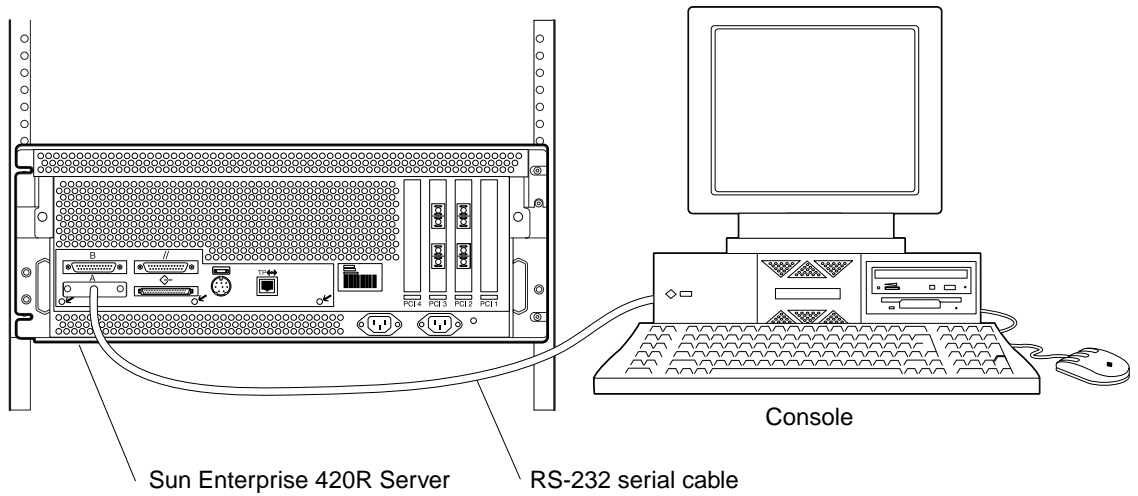

FIGURE 3 Console Connection to Reboot the System
3. **Connect a console to the Sun Enterprise 420R Server as shown in** FIGURE 3.
This section describes how to set up and configure the filer to communicate with the network hosts. Before starting this procedure you must be connected to the filer with a console as shown in FIGURE 3.